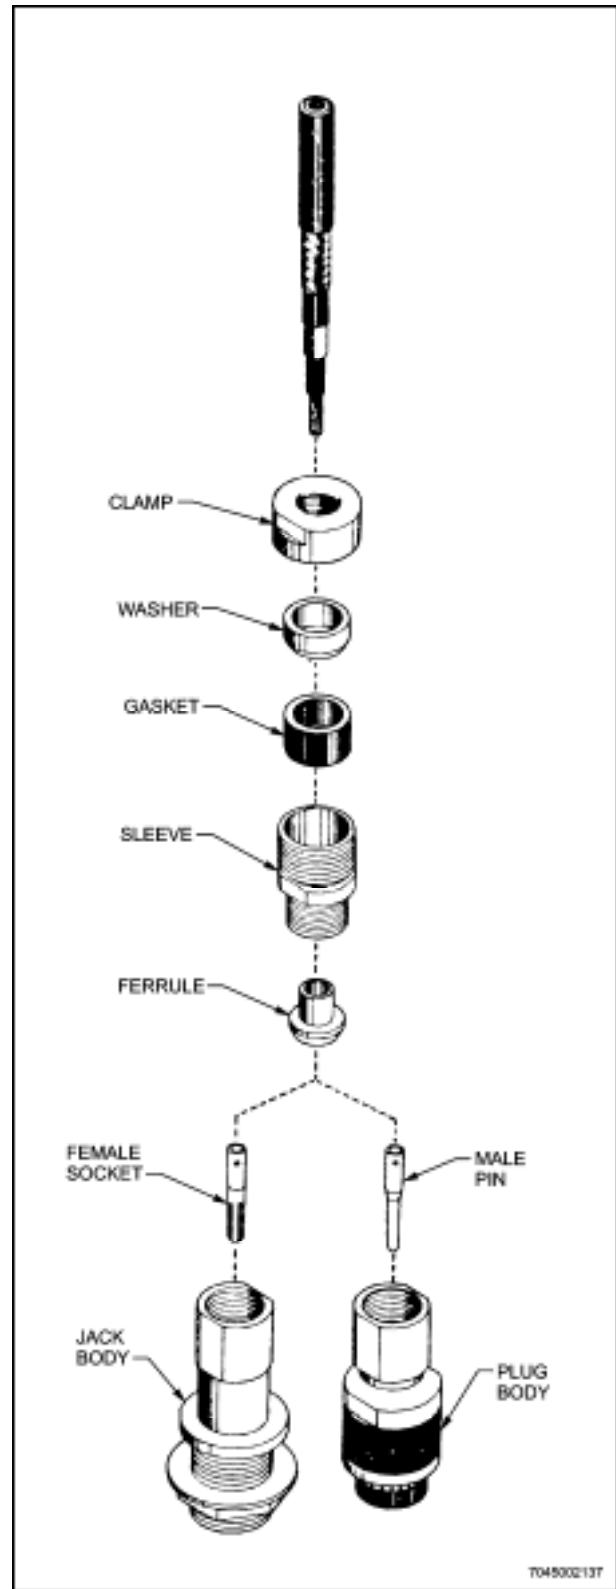

Figure 12-31 Pulse Connector - Rubber Insert
- b. **Rubber Insert Version** consists of a plug or jack body assembled to coaxial cable with clamp, washer, gasket, sleeve, and ferrule. (See Figure 12-31). Plug UG-180A/U and jack UG-182A/U are typical of this version.